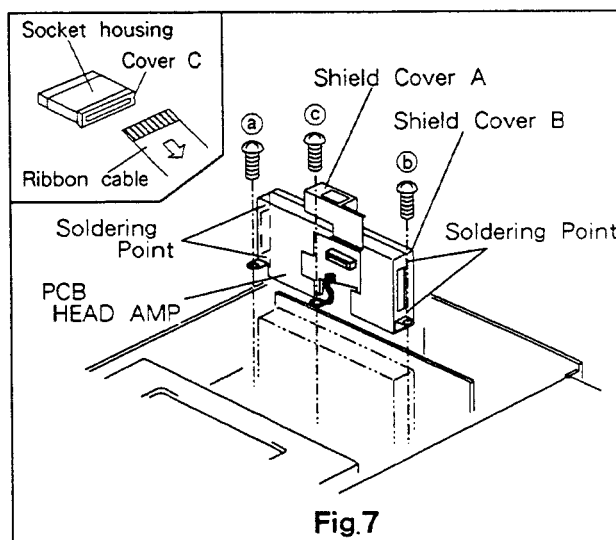

Fig.7
- A. Remove the top cover (Refer to page 1, item 1)
- C. Disconnect the ribbon cable by gently pulling cover C on the socket housing as shown in Fig. 7.